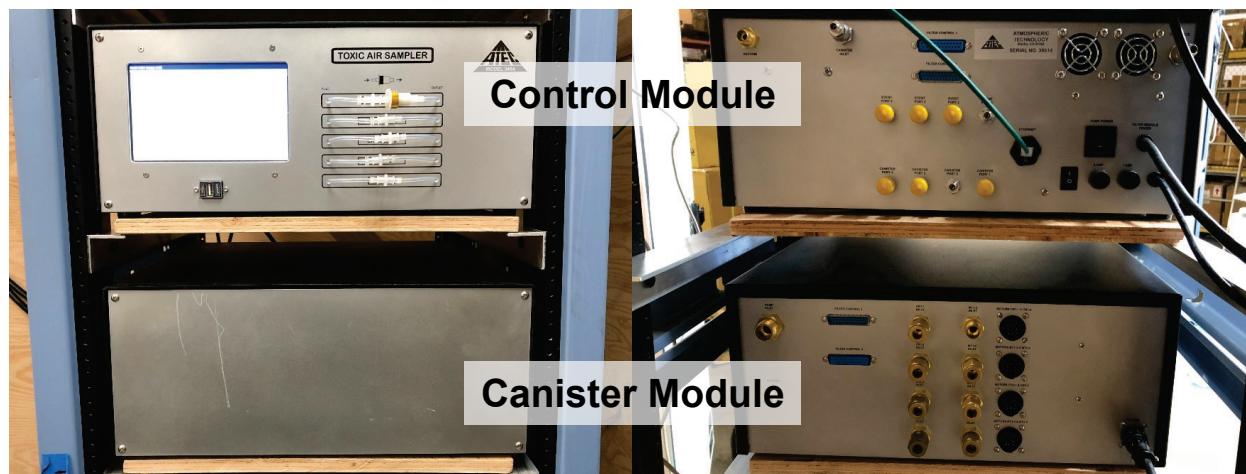

Figure 2. ATEC Case Pics
- Two sampler modules: Control Module & Canister Module, see Figure 2. These modules include all of the control, communication hardware, and firmware to perform all sampling tasks.
3. Insert the Carbonyl cartridge by connecting Luer fitting to each end at front of Control Module. Cartridge orientation should follow the schematic display on Control Module (Figure 2).